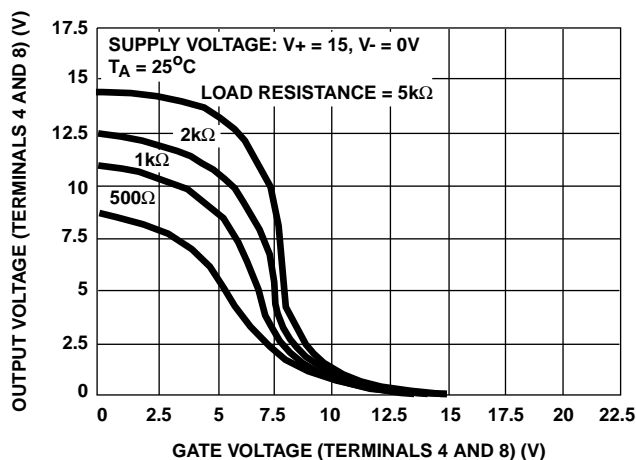

FIGURE 2. VOLTAGE TRANSFER CHARACTERISTICS OF CMOS OUTPUT STAGE
The output stage consists of a drain-loaded inverting amplifier using CMOS transistors operating in the Class A mode. When operating into very high resistance loads, the output can be swung within millivolts of either supply rail. Because the output stage is a drain-loaded amplifier, its gain is dependent upon the load impedance. The transfer characteristics of the output stage for a load returned to the negative supply rail are shown in Figure 2. Typical op amp loads are readily driven by the output stage. Because large-signal excursions are non-linear, requiring feedback for good waveform reproduction, transient delays may be encountered. As a voltage follower, the amplifier can achieve 0.01% accuracy levels, including the negative supply rail.
**Single-supply Operation:** Initially, let it be assumed that the value of RL is very high (or disconnected), and that the input-terminal bias (Terminals 2 and 3) is such that the output terminal (No. 6) voltage is at V+/2, i.e., the voltage drops across Q8 and Q12 are of equal magnitude. Figure 20 shows typical quiescent supply-current vs supply-voltage for the CA3130 operated under these conditions. Since the output stage is operating as a Class A amplifier, the supply-current will remain constant under dynamic operating conditions as long as the transistors are operated in the linear portion of their voltage-transfer characteristics (see Figure 2). If either Q8 or Q12 are swung out of their linear regions toward cut-off (a non-linear region), there will be a corresponding reduction in supply-current. In the extreme case, e.g., with Terminal 8
Let it now be assumed that a load-resistance of nominal value (e.g., 2kΩ) is connected between Terminal 6 and ground in the circuit of Figure 6B. Let it be assumed again that the input-terminal bias (Terminals 2 and 3) is such that the output terminal (No. 6) voltage is at V+/2. Since PMOS transistor Q8 must now supply quiescent current to both RL and transistor Q12, it should be apparent that under these conditions the supply-current must increase as an inverse function of the RL magnitude. Figure 22 shows the voltage-drop across PMOS transistor Q8 as a function of load current at several supply voltages. Figure 2 shows the voltage-transfer characteristics of the output stage for several values of load resistance.